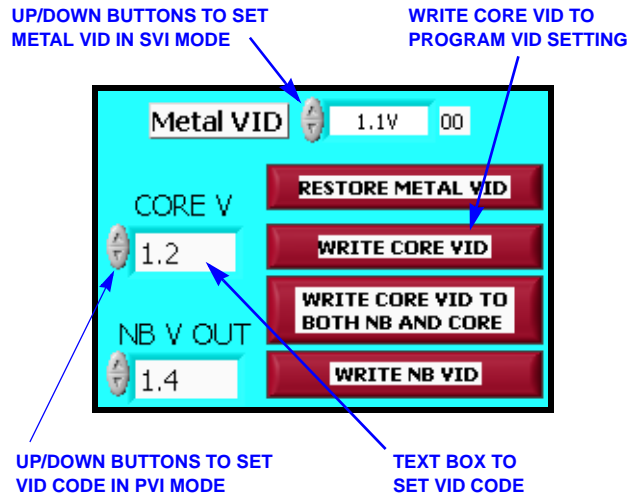

FIGURE 30. SETTING INITIAL VID CODES FOR POWER-UP
assume that the VFIXEN switch is toggled to LOW). See Figure 30.
4. To set the VID code in PVI mode, either toggle the UP or DOWN buttons for “CORE V” or type the desired output voltage level in the “CORE V” text box and then click on the “WRITE CORE VID” button. See Figure 30.